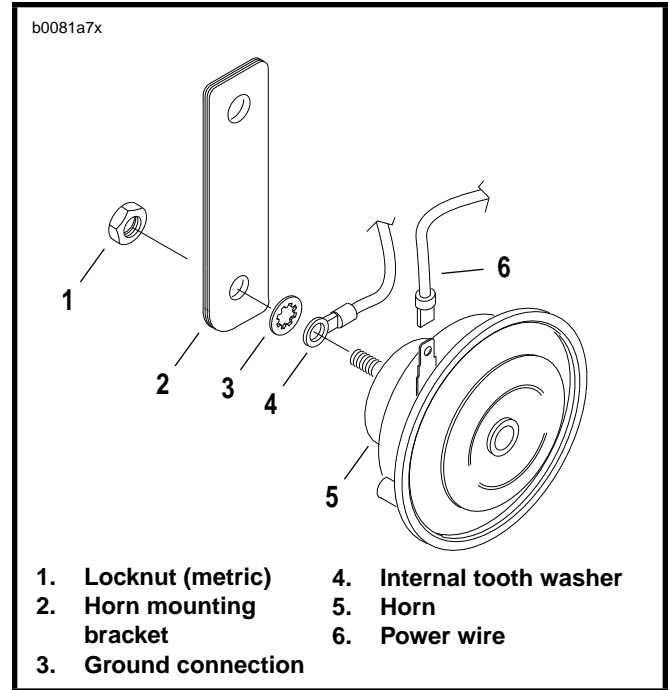

Figure 7-42. Horn Assembly
2. See Figure 7-42. Remove power wire (6) from spade connection.
3. Detach ground wire (4) from horn by removing locknut (1) (metric) and washer (3).
1. See Figure 7-42. Install horn on bracket with ground wire (4), washer (3) and locknut (1) (metric).
2. Attach power wire (6).